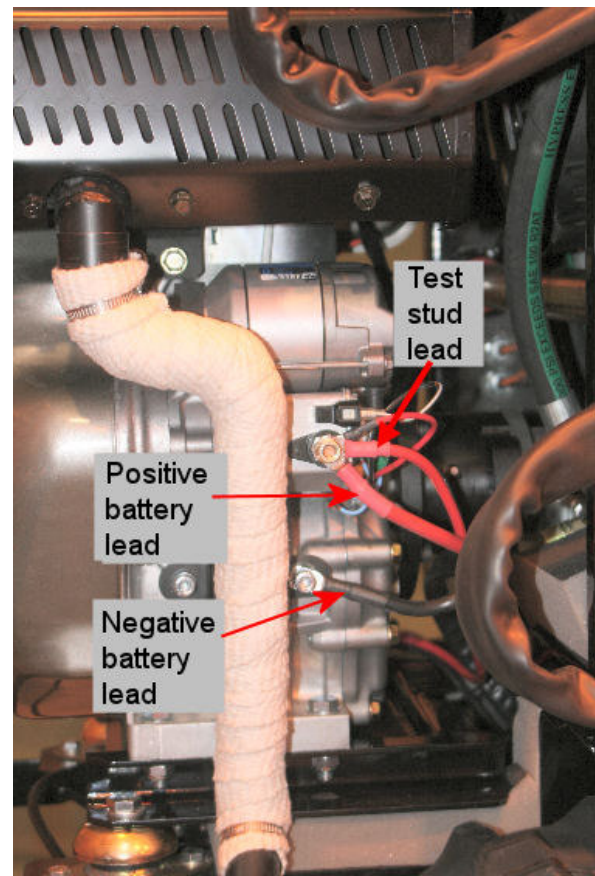

Fig 5-1 Isolate battery
2. Isolate the positive battery lead: carefully remove the lead from the terminal (Fig 5-1) and insulate it with tape to prevent a short-circuit that would damage the battery.
3. Remove the test stud lead from the terminal.(Fig 5-1).
4. Remove the negative battery lead from the bolt securing the exhaust (Fig 5-1).